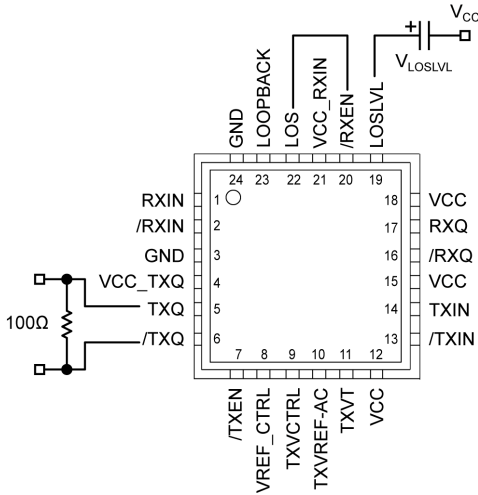

Figure 2a. Voltage Source Implementation
The SY58621L features a chatter-free Loss-of-Signal (LOS) TTL compatible output with an internal 4.75kΩ pull-up resistor. LOS circuitry monitors the input receiver signal and asserts a signal when the input signal falls below the threshold set by the programmable LOS level set pin (LOSLVL). When the amplitude of the receiver input signal falls below the threshold, LOS is asserted HIGH with a response time of ~0.2μs. LOS can be fed into /RXEN to maintain output stability by disabling the output during a Loss-of-Signal condition. Figure 2a and 2b shows the LOS connection to /RXEN. When /RXEN is HIGH, the output signal RXQ is held LOW and /RXQ is held HIGH. Typically, 2dB of LOS hysteresis is adequate to prevent the receiver output from chattering. LOS operation is optimized for data rates ≥ 622 Mbps with an input receiver amplitude of at least 10mV (20mV_{PP}). Due to the long time constant in slower data rates below 622Mbps, the SY58621L LOS function does not guarantee chatter-free operation for low amplitude signals.
between VCC and LOSLVL sets the input amplitude LOS detection trip-point by setting up a voltage divider between VCC and V_{REF} (an internal voltage source set at V_{CC}-1.3V), since there is a 2.8kΩ internal resistor connected between LOSLVL and V_{REF}. The input voltage range of LOSLVL ranges from V_{CC} to V_{REF}. See the “Functional Block Diagram” section and Figures 2a and 2b, to see how R_{LOSLVL} sets up a voltage divider between VCC and V_{REF}. See the “LOS Output DC Electrical Characteristics” table and “Typical Operating Characteristics” section to see how different R_{LOSLVL} values affect LOS sensitivity.
- Connecting the input /RXEN to the LOS output as shown in Figures 2a and 2b, maintains receiver output stability under a Loss-of-Signal condition